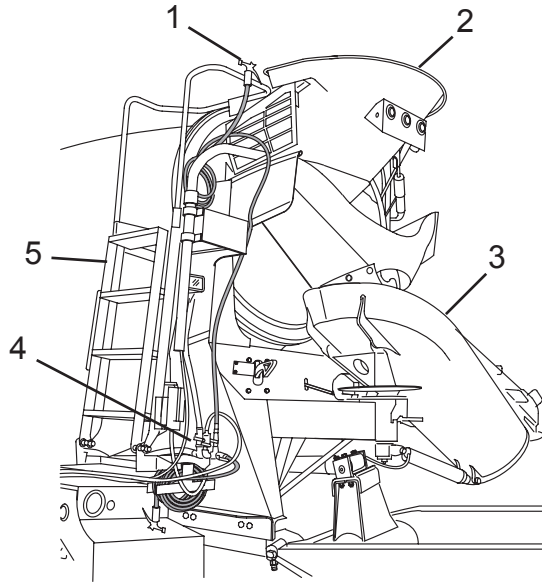

Figure 73
5. Turn on the wash-out hose valve (Figure 73, Item 4).
6. Unfold the access ladder (Figure 73, Item 5).
7. Using the wash-out hose (Figure 73, Item 1), start at the top and wash out the charge hopper (Figure 73, Item 2), the interior of the drum, the main chute (Figure 73, Item 3), and chute extensions.